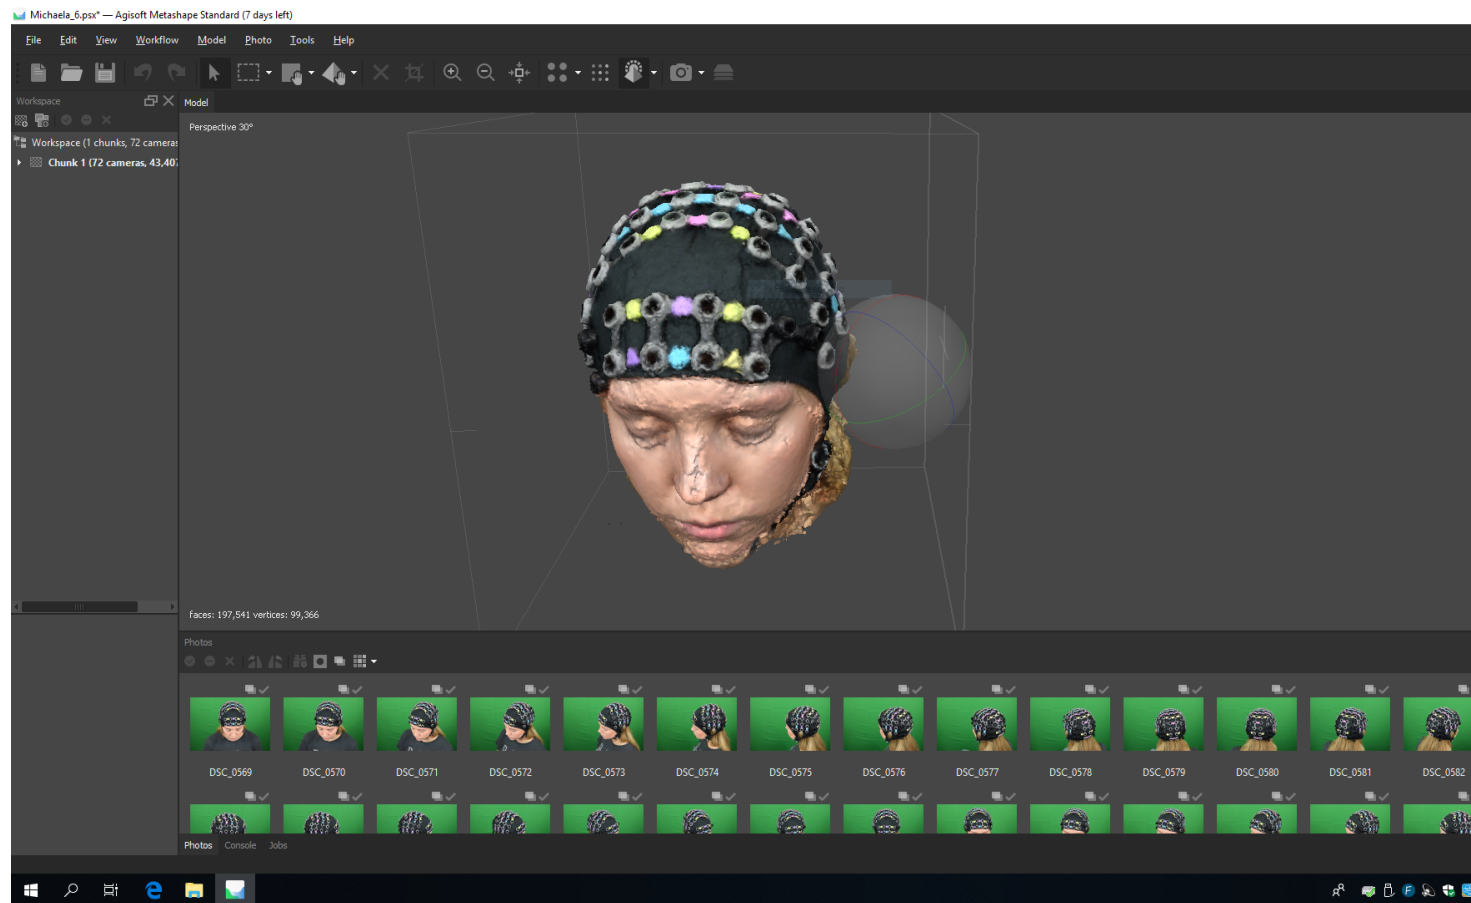

Figure 22. Checking shaded mode in Metashape
10. Check the quality of the model by looking at different views by selecting “shaded”, “solid”, and “wireframe” as illustrated in figure 22 and 23.